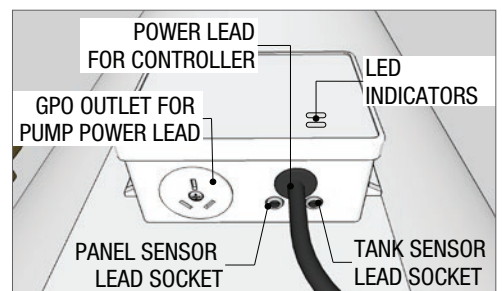

Fig 6
4. Then plug the other end of the sensor lead into the "Tank" socket under the controller (Fig 6)
6. Connect the collector sensor wire to the "Panel" socket under the controller (Fig 6)
7. Once tank is filled with water plug the pump power lead into GPO outlet on the base of the controller (Fig 6)
9. If the temperature at the collector is 7°C or greater than the tank, the "Tank" LED light on the controller will illuminate "green" (Fig 6)